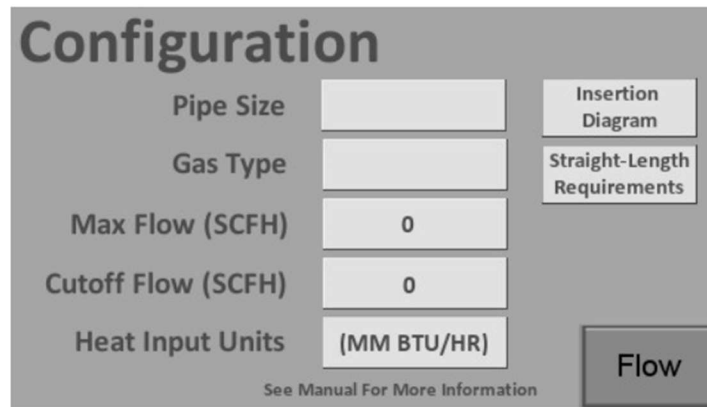

Figure 7: Configuration Screen on Meter Power-up
11. Plug in the flow meter’s power cord to 120 VAC power. The display on the flow meter and the touch screen should power up. After both have initialized (booted), the configuration screen should look like Figure 7 below.